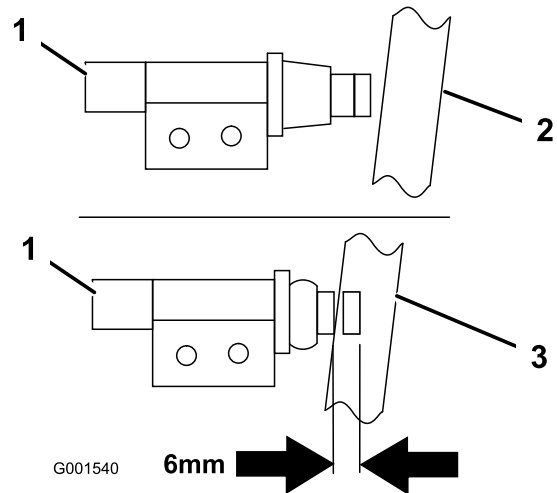

Figure 7
5. Adjust the new bracket so that the brake switch is depressed 6 mm (1/4 inch) when the brake is released Figure 7.